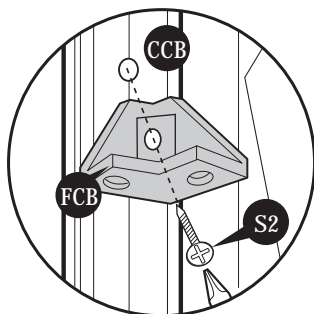

Fig.1: Use (S2) screw. Fix (FCB) to (CCB). Leave it loose.
8. Stabilize the side panels with center band (CB2B). Start with the center band fitting (FCB). Fix to corner column (CCB) with (S2) screws. See figures (fig.1) (fig.2) (fig.3) and (fig.4).